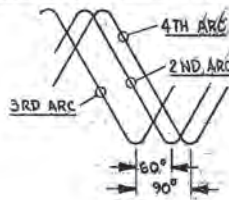

FIG. 1
- (A) ONE WAY TO VERIFY PROPER PHASE ANGLE AND PHASE SEQUENCE IS TO USE AN OSCILLOSCOPE AS FOLLOWS:
- CONNECT THE SCOPE INPUT TO EACH AC NOZZLE AND NOTE THE TIME OR PHASE DIFFERENCE BETWEEN ALL THREE. THEY SHOULD LOOK LIKE FIG. 1.